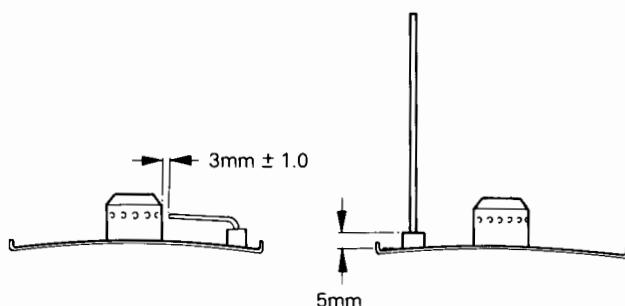

FIG. 18
4. Fit new electrode in reverse order, set gap and position (See Fig. 18).
4. Fit new sensing probe in reverse order, set gap and position (See Fig. 18).